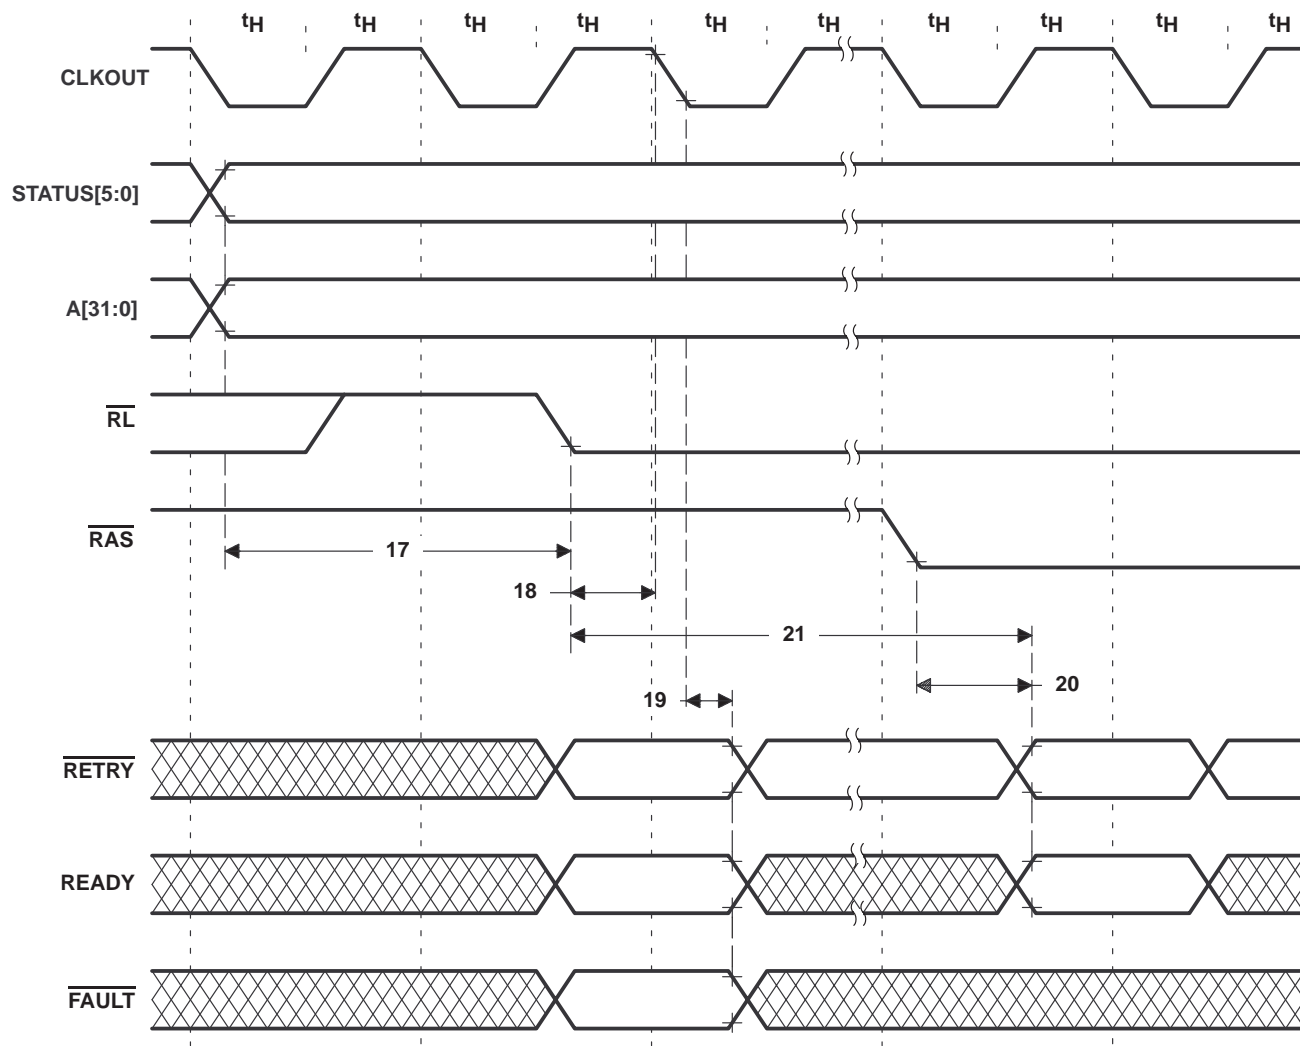
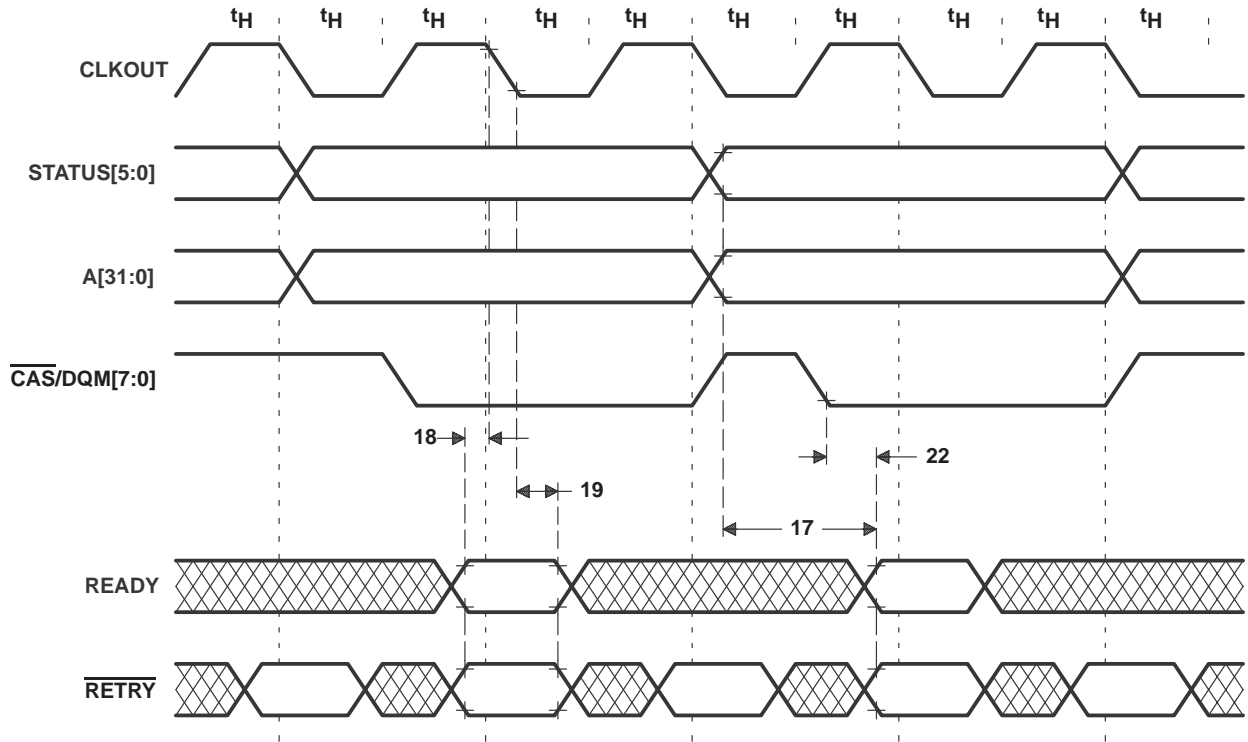

Figure 122. Local Bus Timing: Row-Time Cycle Completion Inputs
Figure 123. Local Bus Timing: Column-Time Cycle Completion Inputs
**local bus timing: cycle completion inputs (see Figure 122 and Figure 123)**